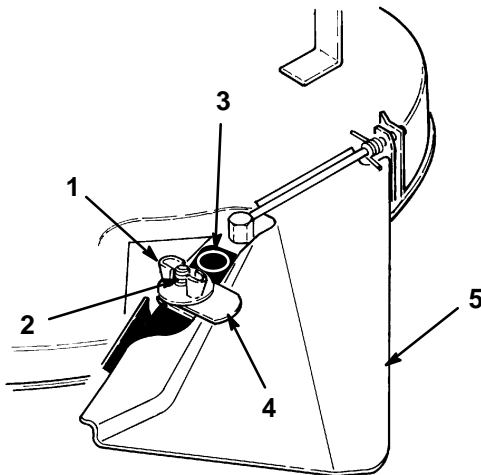

Figure 8
1. Remove the wing nut securing the discharge cover (Fig. 8) to the mower housing. **NEVER REMOVE THE GRASS DEFLECTOR FROM THE MOWER HOUSING (Fig. 8).**